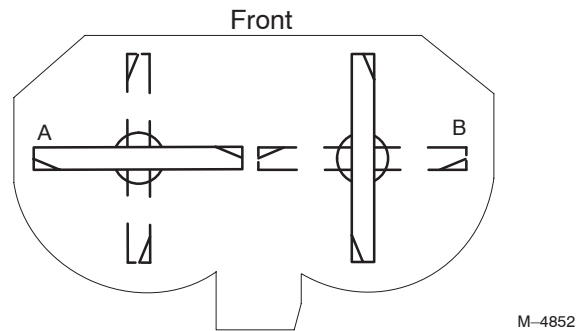
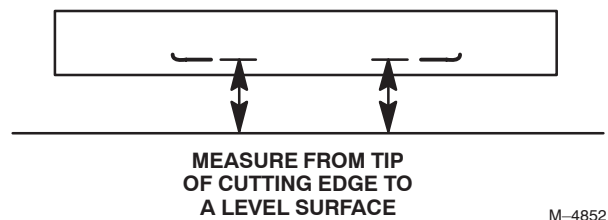

Figure 53
Figure 54
2. Position the blades side-to-side (Fig.53). Measure at **A** and **B** locations (Fig. 53) from a level surface to the cutting edge of blade tips (Fig.54).